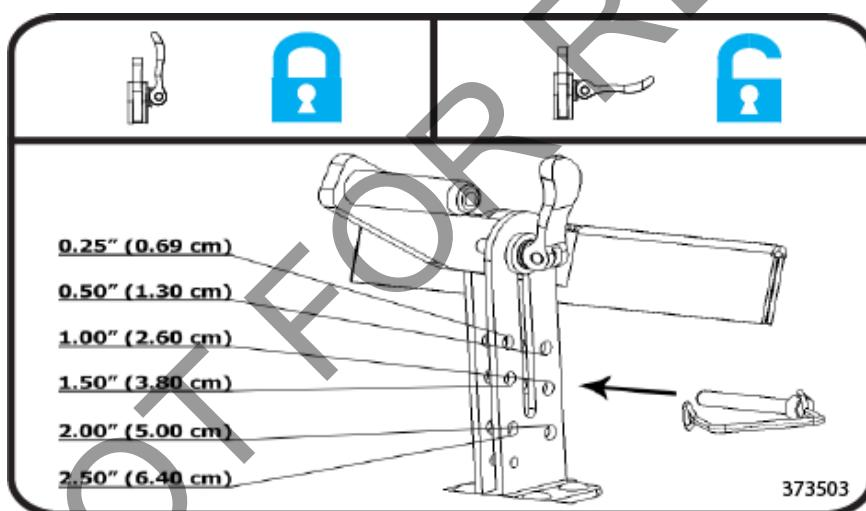

Fig. 2.
1. Choose a depth of cut. See instruction label on the unit (see *Fig. 2*). Note: Sod should be cut leaving a minimum amount of dirt (1/4"-3/8") attached to the roots. This minimizes its weight for removal and encourages faster growth when reused.